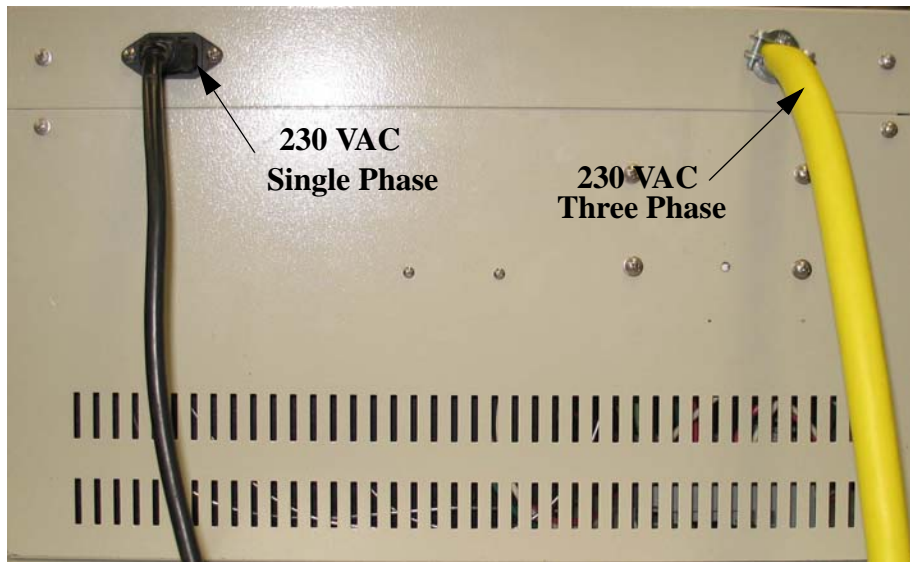

Figure 1-2 AC Inputs on Rear of Control Box
The control box requires one single phase, 230 VAC, 47-63 Hz, connection (see Figure 1-2). The supply wire is included with the test system but a suitable AC connector must be provided by the customer. This single phase input is used to provide input power for the cooling system. The test set contains a 25 amp internal circuit breaker switch for this input. The circuit breaker switch is on the front of the control box.
The control box also requires a three phase 230 VAC, 47-63Hz, connection (see Figure 1-2) The AC supply wire is included with the system but a suitable AC connector must be provided by the customer. This three phase input provides input power for the PA module. The test system does not contain a circuit breaker for the 3 phase AC input. The 40 amp circuit breaker must be provided by the customer.
- STEP 2** Refer to drawing 843-5601-612. Connect the black AC input cable (see Figure 1-2 on page 1-4) to a single phase, 230 VAC, 25 amp, source. The mains connection should include a an emergency disconnect (supplied by the customer) to allow the mains voltage to be removed from the test system when required for maintenance or troubleshooting. The control box for the test system includes a breaker/switch for the single phase AC input.
- STEP 3** Refer to drawing 843-5601-612. Connect the yellow AC input cable (see Figure 1-2 on page 1-4) to a three phase, 230 VAC, 45 amp, source. The mains connection should include (supplied by the customer) 45 amp circuit breakers or fuses and an emergency disconnect to allow the mains voltage to be removed from the test system when required for maintenance or troubleshooting. The control box for the test system includes a breaker/switch for the single phase AC input.
Refer to the AC Distribution Test Fixture ULX drawing 843-5601-612. The drawing shows the required single phase 230VAC and the three phase AC 230VAC connections (see the wiring in Figure 1-2 on page 1-4) and also shows the current draw for each AC input. The single phase input supplies power to the modular cooling system. Loss of the single phase AC input will disable the three phase AC supplying the module.